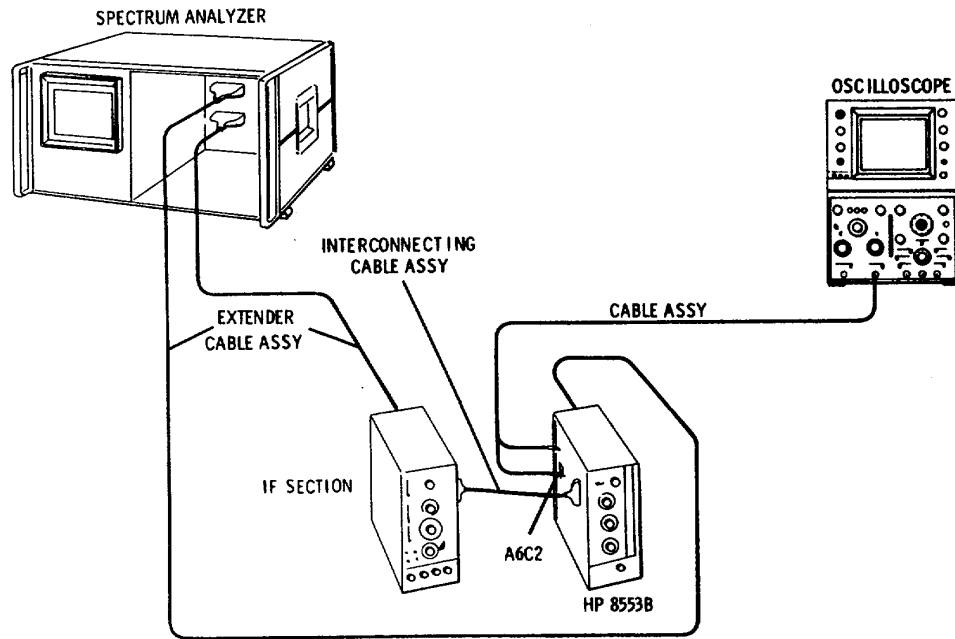

Figure 5-13. APC Search Oscillator Check Test Setup.
1. Connect the test setup in Figure 5-13 and make the following control settings: